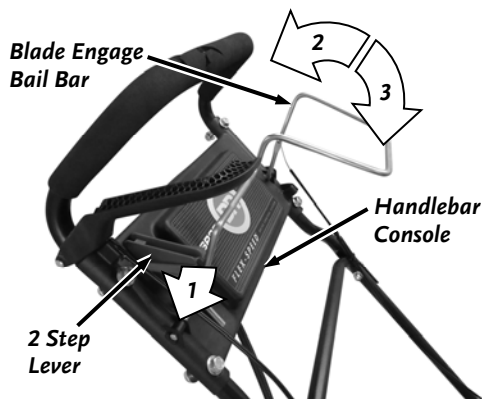

Figure 35
2. Engage and release the Blade Engage Bail Bar a few times, then fully release it (**Figure 35**).